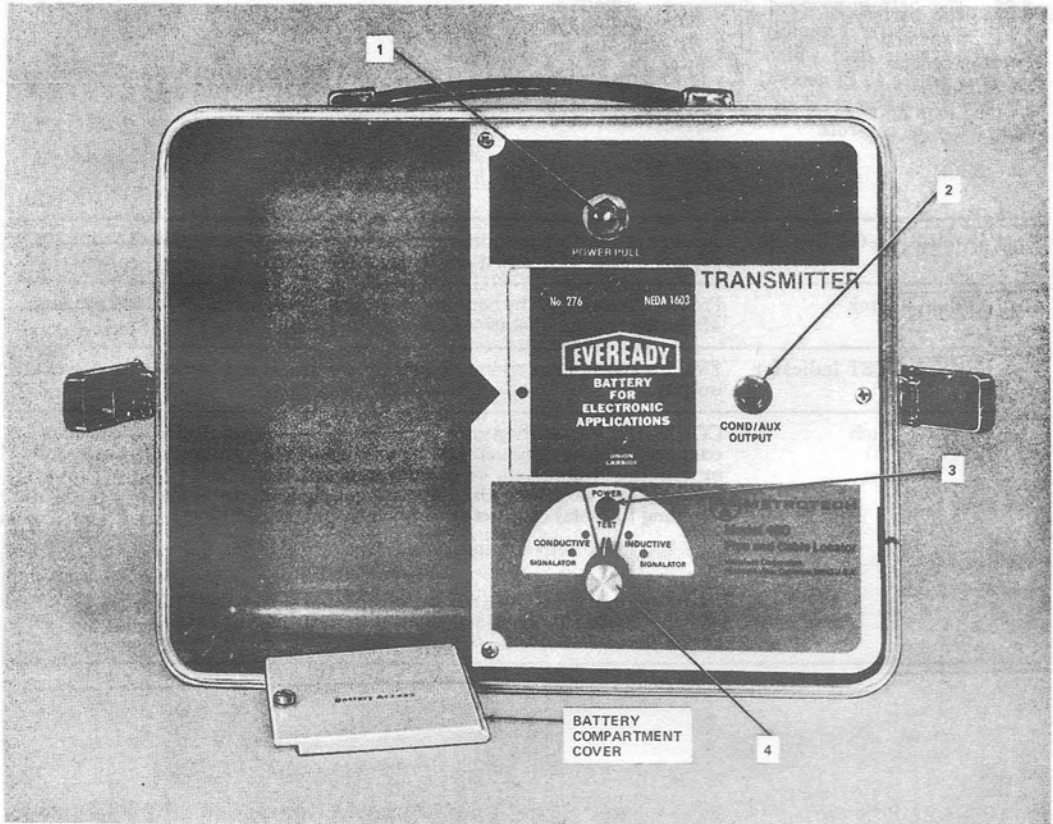

Fig. 2—Transmitter
3.02 The battery-powered directional radio-type transmitter assembly (Fig. 2) generates an electromagnetic field which surrounds the buried metallic object to be located. It is equipped with a tuned loop antenna, a storage compartment, and the following controls: